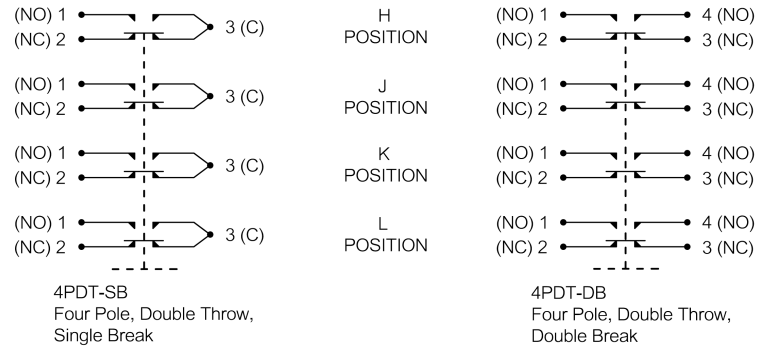

FIGURE 4
6. A, B, C, D, F and G identify the lamp circuit terminations (see Figure 4).